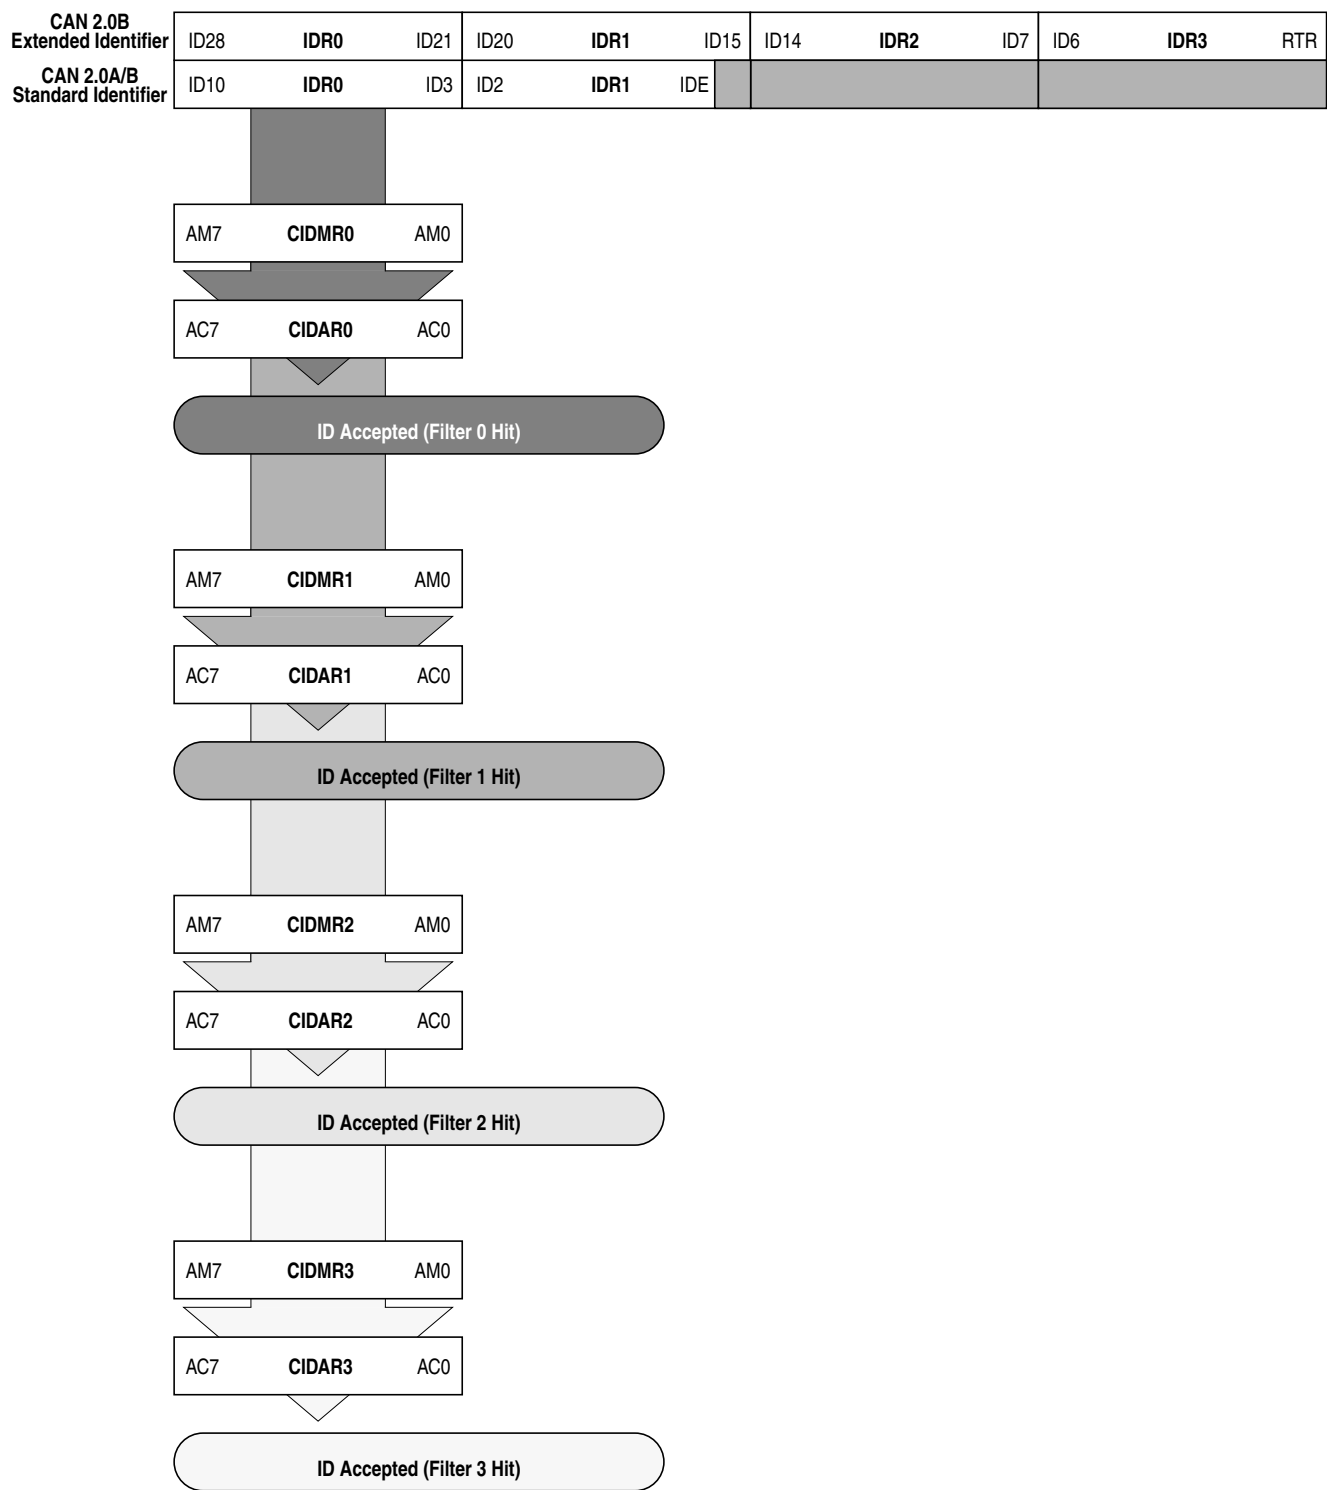

Figure 8-42. 8-bit Maskable Identifier Acceptance Filters
- Eight identifier acceptance filters, each to be applied to the first 8 bits of the identifier. This mode implements eight independent filters for the first 8 bits of a CAN 2.0A/B compliant standard identifier or a CAN 2.0B compliant extended identifier. Figure 8-42 shows how the first 32-bit filter bank (CANIDAR0–CANIDAR3, CANIDMR0–CANIDMR3) produces filter 0 to 3 hits. Similarly, the second filter bank (CANIDAR4–CANIDAR7, CANIDMR4–CANIDMR7) produces filter 4 to 7 hits.